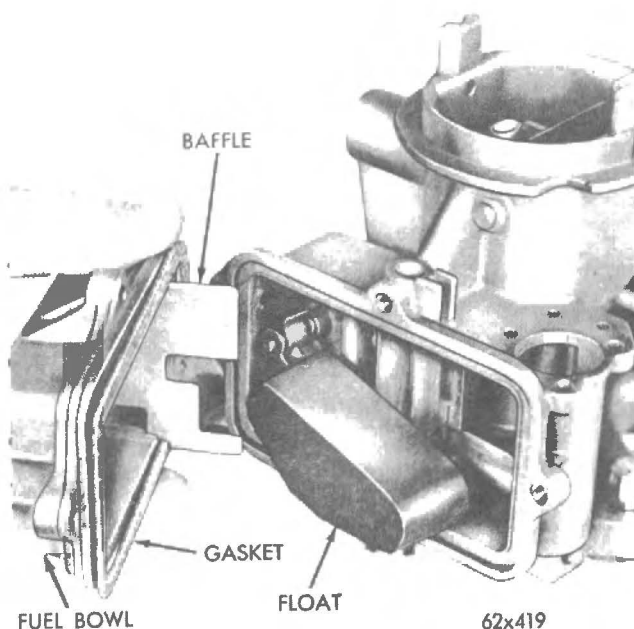

Fig. 13 - Removing or installing fuel bowl.
(5) Remove the fuel bowl attaching screws, then remove the fuel bowl, baffle, and gasket, as shown in Fig. 13. Slide baffle out of bowl. Discard the gasket.